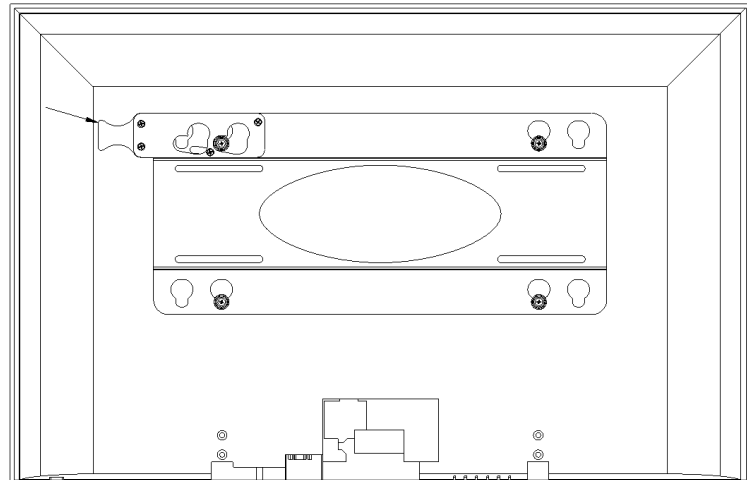

Figure 7
5. With the aid of another person, lift the display up to the mount, align the mounting buttons on the screen with the teardrop slots in the mount, and set the screen into place (see Figure 7).